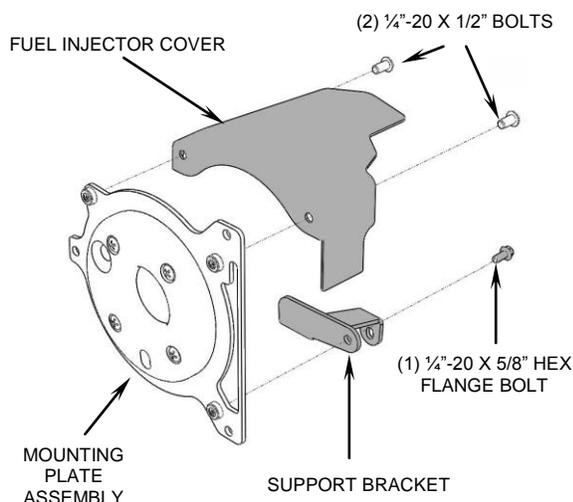
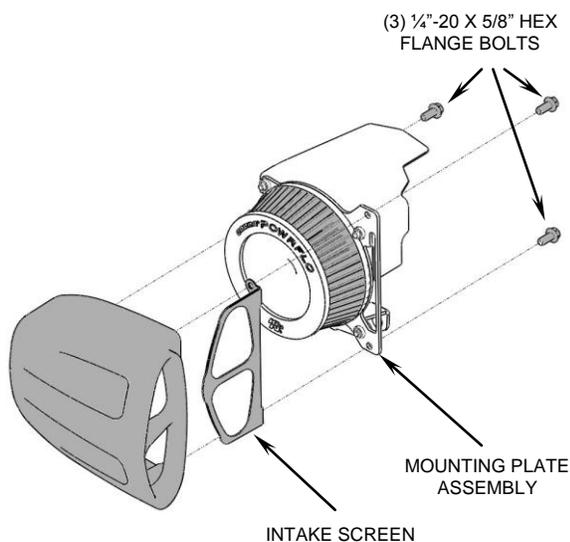

FIGURE 3
FIGURE 4
7. Using (2) supplied $\frac{1}{4}$ "-20 x $\frac{1}{2}$ " buttonhead bolts, secure the fuel injector cover to the upper portion of the mounting plate, and tighten. Use a $\frac{1}{4}$ "-20 x $\frac{5}{8}$ " hex flange bolt to attach the support bracket to the lower threaded hole and orientate as shown in Figure 3, but do not tighten.
9. Between the two cylinders is a bracket with a welded nut; align the slotted hole in the support bracket with that welded nut, then insert the (1) supplied M6 x 16mm buttonhead bolt.
13. Place intake cover over the mounting plate assembly and align the mounting holes to the threaded bosses. Insert the (3) supplied $\frac{1}{4}$ "-20 x $\frac{5}{8}$ " flange bolts and tighten the mounting plate to the intake cover. See Figure 4.